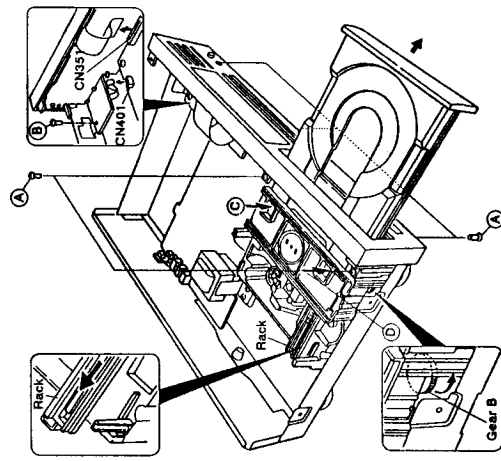

Fig. 2-2
- 2 Pull out the tray slowly by pushing the nail of the tray section front: two holes ① and ② of the clamper base (Fig. 2-2). (It is necessary to push the nail of the tray section at the front panel portion.)
- 1 Remove five screws ③ (Upper side is two screws and under side is three screws.) to the front panel.
- 2 Remove a screw ④ to the Headphone board assembly (Fig. 2-2).
- 3 Disconnect two connectors CN351 and CN401 from the Mother board assembly (Fig. 2-2).
- 1 Turn the gear B slowly in the direction of arrow by ① screwdriver with care not to damage the gear B (Fig. 2-2).